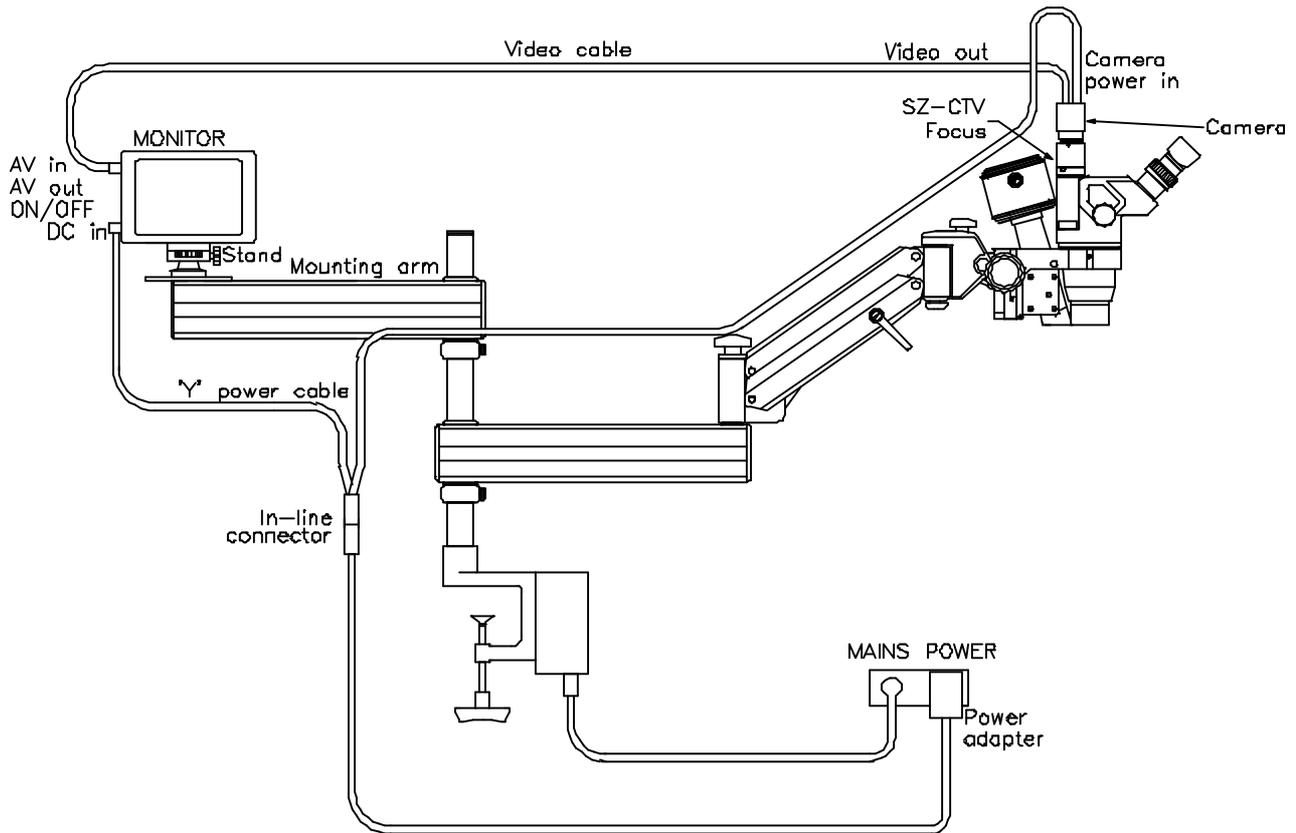

Figure 11 Scan Optics SO-111 Video System Schematic
8. Attach the 'Y' cable to the power adapter cable using the in-line connectors. Connect the small right-angled power plug to the monitor DC in socket and the large straight power plug to the camera DC in socket. Plug the power adapter in to a mains socket using a mains plug adapter as necessary. Note that the power adapter will automatically detect mains voltages between 100 and 240V, 50-60Hz. Refer to figure 11.
9. Connect the Monitor (AV in) to camera (video out) using the video cable. Switch the moitor on. Refer to figure 11.
13. If the picture on the monitor is unfocussed, adjust focus at rear of the SZ-CTV attachment below the camera. Refer to figure 11.
The optional assistant microscope allows an observer to view procedures under magnification within close proximity of the operating field. In order to fit the assistant microscope, first attach the mounting bracket provided to one side of the microscope head using the four M5x10 socket head cap screws provided. Then insert the mounting arm and secure it with the locking pin. Refer to figure 11.
The assistant microscope may be configured to mount on either the left or right side of the main microscope head. Figure 11 shows the head configured to fit on the right hand side of the microscope head. In order to swap the mounting configuration follow figures 12a and 12b shown.